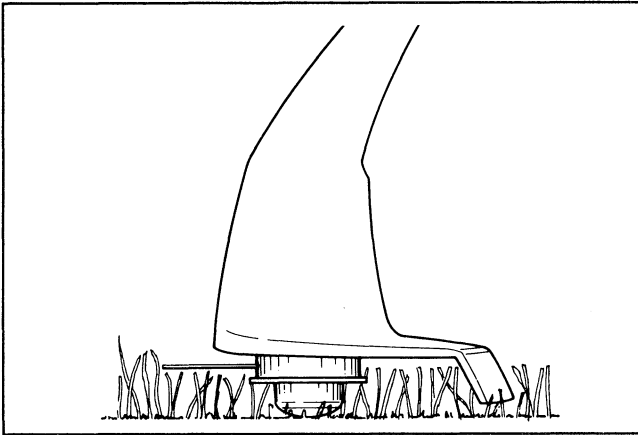

Figure 13
8. Never drag the trimmer spool cap on the ground while trimming (Fig. 13). This causes unnecessary battery drain and spool cap wear.